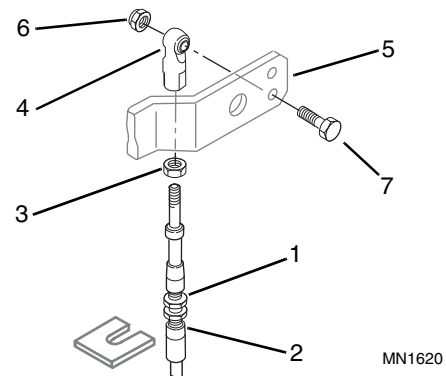
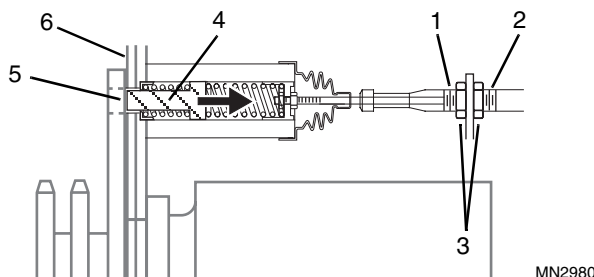
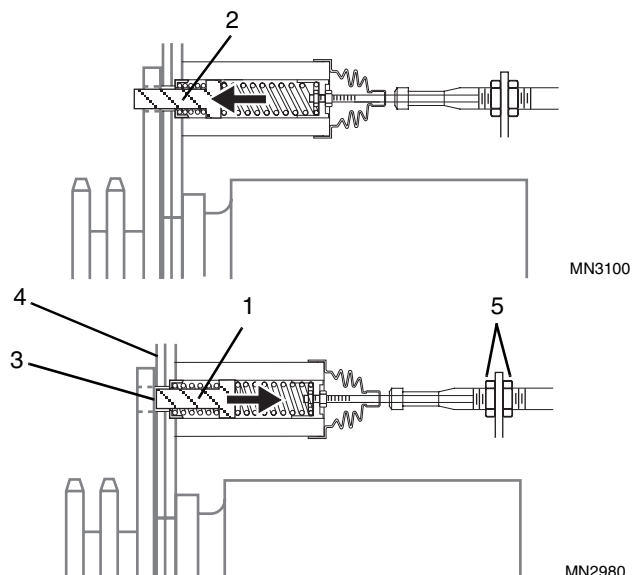

Figure 9-39 Park Lock Cable Operator Protective Structure Mount
Figure 9-40 Park Lock Cable Chassis Mount
Figure 9-41 Park Lock Cable Chassis Mount
24. Inspect both park lock cables where they mount to the rear of the Operator's Protective Structure. An equal number of threads should be visible on each side of the bulkhead nuts (Fig. 9-39, 1 & 2) on each cable. If not, readjust as required until they are equal.
25. Inspect both park lock cables where they mount to the chassis. An equal number of threads should be visible on each side of the bulkhead nuts (Fig. 9-40, 1 & 2) on each cable. If not, readjust the bulkhead nuts (3) as required until the visible threads are equal.
26. Lower the seat bar to retract both lock pins (Fig. 9-40, 4). The face of each lock pin (5) must be flush with the inner wall of each respective chain case (6) with the seat bar lowered. The lock pin position is adjusted by moving the ball joint (Fig. 9-39, 4) on the cable end at the seat restraint bar pivot arm (5).
27. At the rear of the seat bar, loosen the hex jam nut (Fig. 9-39, 3) against the ball joint (4).
28. Detach ball joint from seat restraint bar pivot arm (Fig. 9-39, 5) by removing the elastic locknut (6) and capscrew (7). Discard locknut.
29. Turn the ball joint (Fig. 9-39, 4) onto the cable to retract either pin (Fig. 9-41, 1) away from the drive sprocket. Turn the ball joint toward the end of the cable to extend either pin (2) closer to the drive sprocket.
30. With the seat bar still lowered, temporarily attach both ball joints (Fig. 9-39, 4) to the seat restraint bar pivot arm (5) and inspect each pin position again. Repeat Step 29 as required until the face of the each lock pin (Fig. 9-41, 3) is flush with the inner wall of the respective chain case (4).
31. If either pin cannot be adjusted using Steps 27 through 30, loosen the cable housing bulkhead nuts (Fig. 9-41, 5), reposition the cable slightly and tighten the bulkhead nuts (5). Repeat Steps 27 through 30.
32. Secure each cables ball joint (Fig. 9-39, 4) to the seat restraint bar pivot arm (5) with capscrew (7) and a new elastic locknut (6). Tighten the hex jam nut (3) on each cable to the ball joint (4).